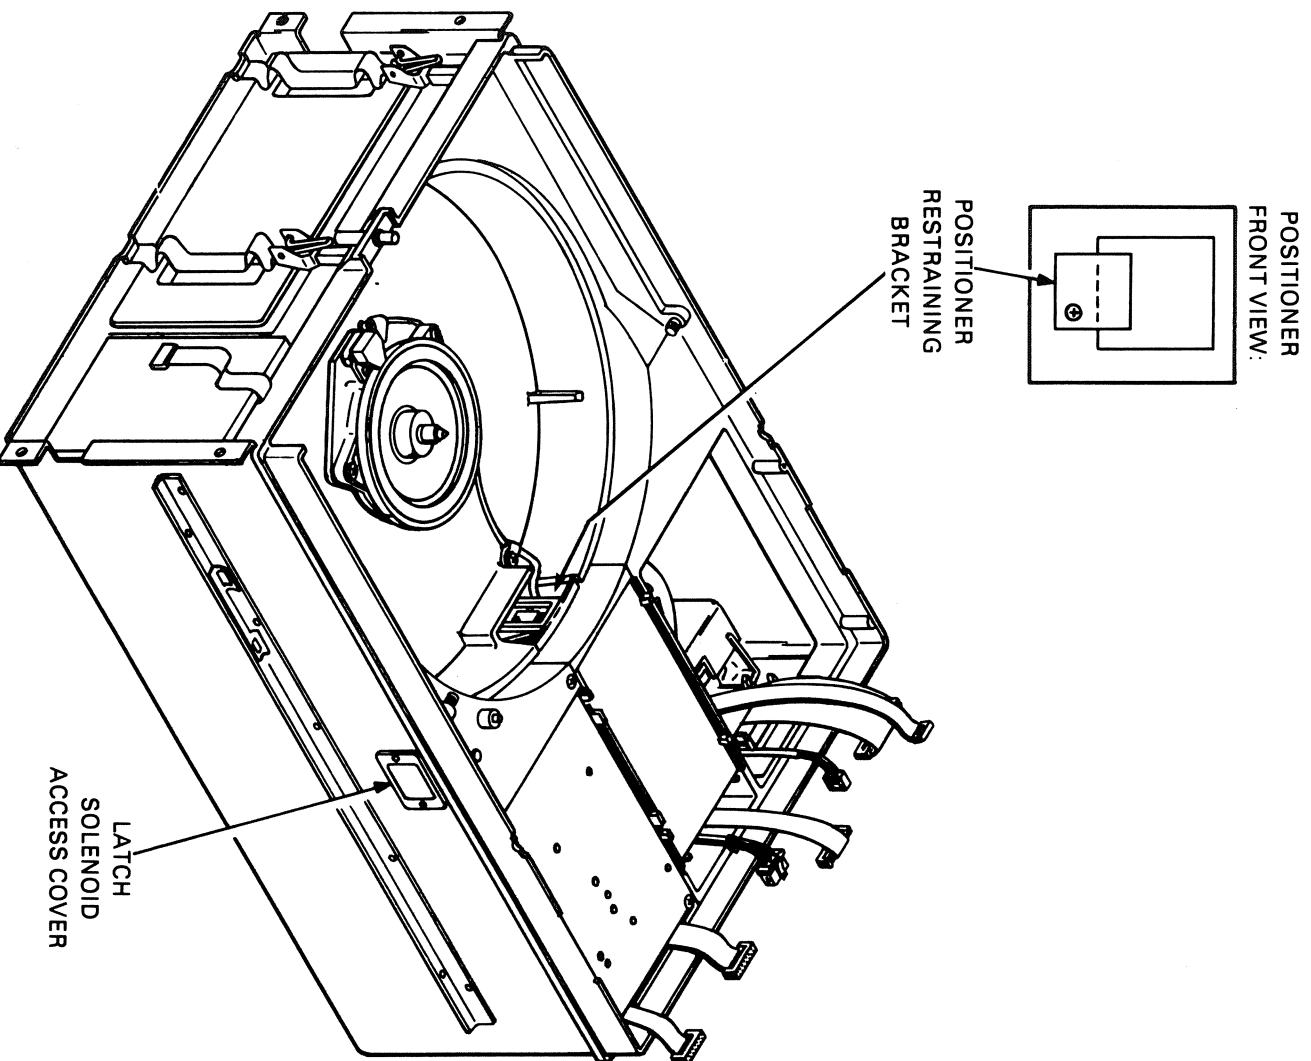

Figure 2-25 RL01/RL02 – Covers Removed
8. Loosen the head restraining bracket screw located on the positioner. Turn the bracket 90 degrees and retighten the screw (Figure 2-25).
1. Ensure that the positioner restraining bracket is secured out of position to prevent interference with the positioner (Figure 2-25).